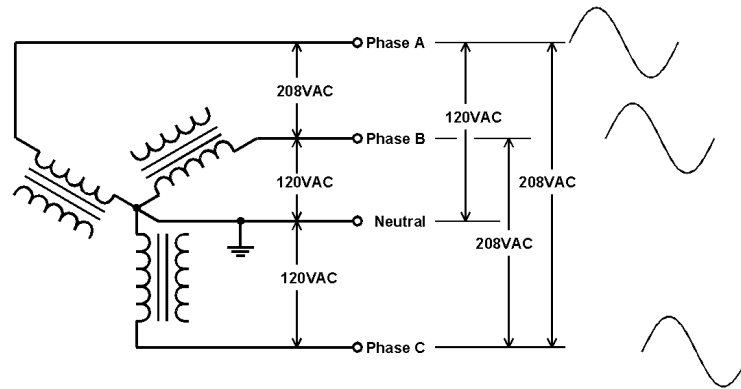
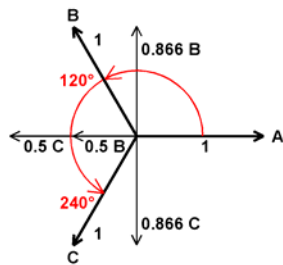
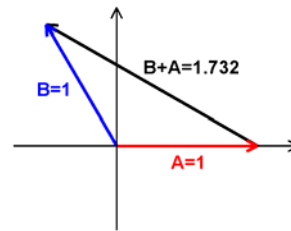

Figure 3a – Three Phase 208V/120V Power System (The Americas)
Figure 4a – 3-Phase Voltages
Figure 4b – Phase to Phase Voltage
Large facilities are connected to a three-phase ***service***, as shown in Figure 3a or 3b.
Three phase power is required to run most large motors. Figures 3a and 3b show that the voltage waveforms for the three phases are displaced from each other by 120 degrees. Figure 4a shows these voltages as “phasors,” a mathematical concept developed to analyze and describe how voltages *of the same frequency* but out of phase with each other combine with each other. We can think of these phasors as vectors that rotate around an origin, with the vertical height of the vector tracing a sine wave as it rotates.
We can “stop” these phasors at any point in time and analyze how they combine. Figure 4a shows them at the point where the voltage on phase A happens to be at 0 degrees, but we could have stopped them at any other point on the cycle. Figure 4b shows that when any two windings are in series (that is, we measure phase-to-phase) the voltage is 1.732 x the voltage of any one phase. Thus, a 3-phase system that has 120 VAC between each leg and neutral will have  $1.732 \times 120V = 208VAC$  from phase to phase. Why not 240 volts (or zero)? Because the two voltages are displaced by 120 degrees, not 180 degrees as in the case of a single phase (center-tapped) system. The constant 1.732 results from the 120 degree relationship between the phases. It applies to the ratio between single-phase and three-phase power systems, no matter what the voltage.
- 120/208V and 230/400V wye (Figure 3a, 3b)